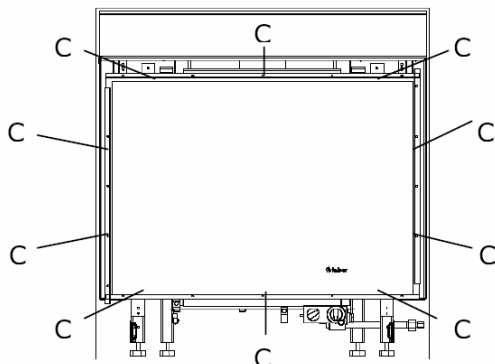

Fig. 7
- 3) Remove the glass by removing the glass clamps C (see fig. 7) for instance with a screwdriver. Careful when removing the glass! Wear gloves! Before placing the glass back, be sure that there are no fingerprints on the glass, it is not possible to remove them when they are burnt in.
- 2) Remove the glass by removing the glass clamps C (see fig. 7), e.g. with a screwdriver. Careful when removing the glass! Wear gloves! Before placing the glass back, be sure that there are no fingerprints on the glass, it is not possible to remove them when they are burnt in.